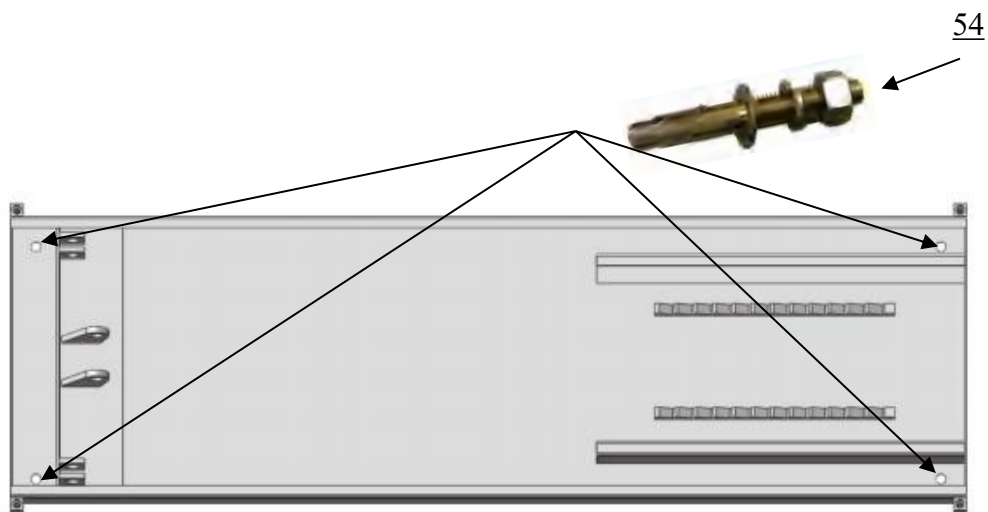

Fig.16
1. Install anchor bolts. see Fig.16